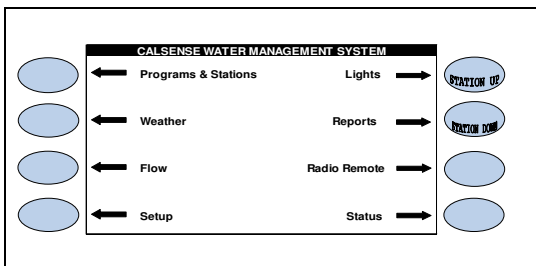

Figure 7
The MAIN MENU screen (Figure 7).
12.  Press the **PROGRAMS & STATIONS** Menu key (Figure 7).